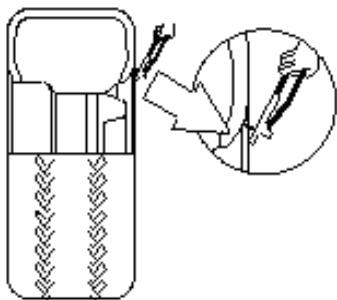

Fig 5
- Ø Remove any counterweight and other foreign body from the wheel before mounting it to avoid any danger. When remove the counterweight, the demounting/mounting pliers supplied with the machine should be used (Fig. 5).